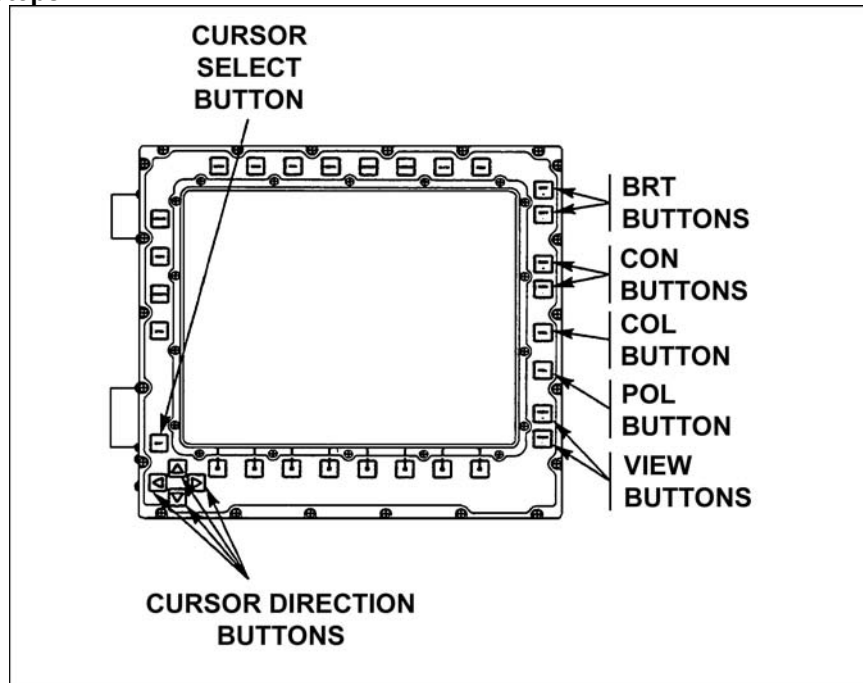

Figure 3. Cursor direction and select buttons.
- a. Use the cursor direction and select buttons (Figure 3).